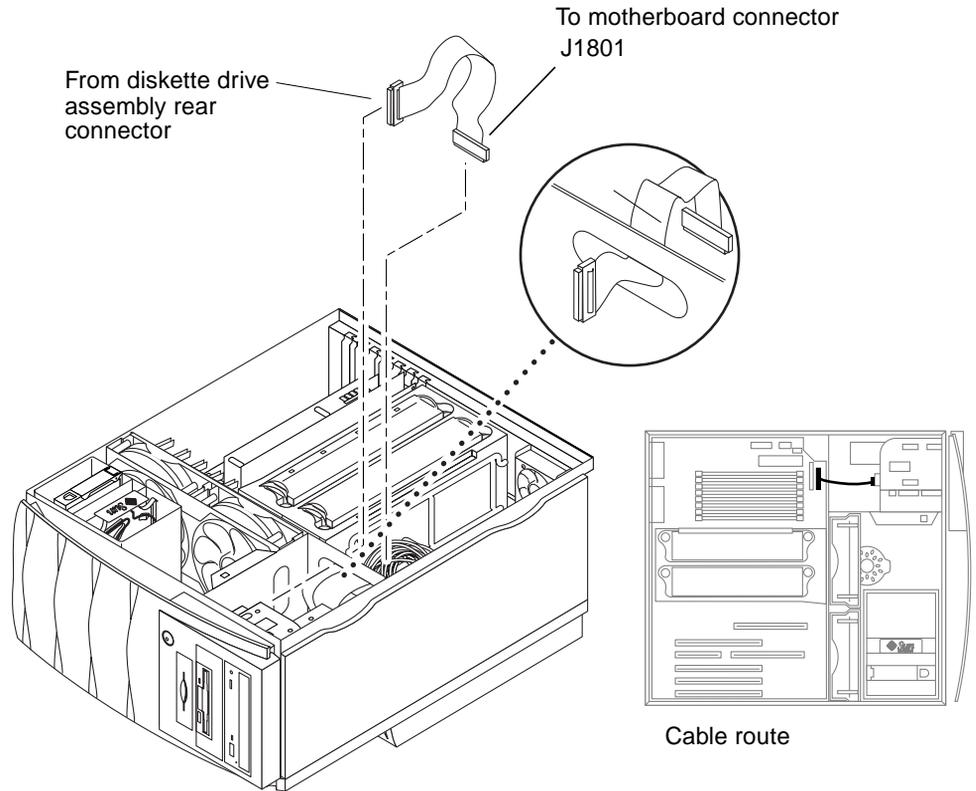

FIGURE 6-8 Removing and Replacing the Diskette Drive Cable Assembly
3. **Disconnect the diskette drive cable assembly as follows (FIGURE 6-8):**
1. Position the diskette drive cable assembly in the chassis (FIGURE 6-8).
2. Connect the diskette drive cable assembly as follows (FIGURE 6-8):